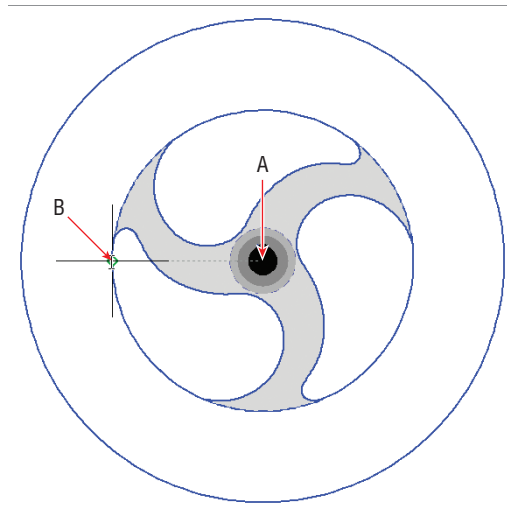

FIGURE 8.8 Drawing a circle
3. Shift+right-click, and choose Node from the context menu. Click point A, shown in Figure 8.8, as the center point. Type **QUA** (for Quadrant), and press Enter. Click point B, also shown in Figure 8.8, to set the inner circle's radius. The CIRCLE command ends.